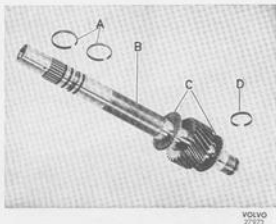

Fig. 4-119. Forward sun gear components
14. Place the front needle thrust bearing on the rear sun gear shaft. Fit the shaft in the rear clutch assembly. Install the oil sealing rings, see Fig. 4-119.